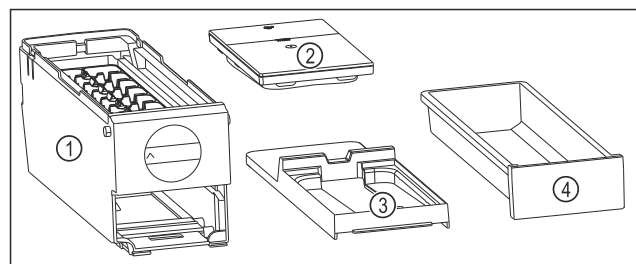

Fig. 167 Components of the EasyTwist-Ice
- ▶ EasyTwist-Ice is disassembled in four parts. (see Fig. 167)
- ▶ Only disassemble the EasyTwist-Ice into the illustrated components. (see Fig. 167)
- ▶ Clean the EasyTwist-Ice body Fig. 167 (1) as a complete unit.